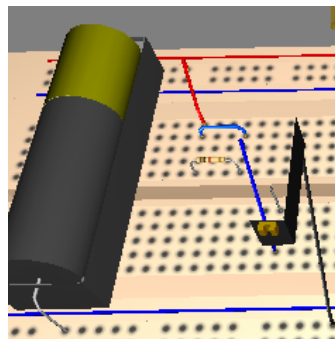

Figure 25. A Design error
7. Now lets introduce a design error. Rewire the positive terminal of the battery but short the 1 k Ω resistor. The result is shown in figure 25.